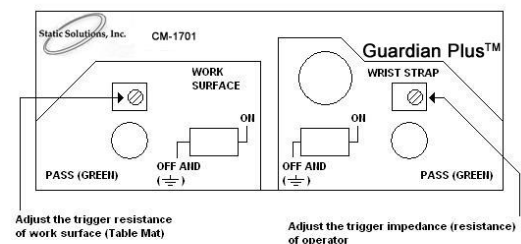

FIGURE 2.
Preset impedance (Operator): The wrist strap person adjustment can be changed The monitor can be changed by turning the adjustment screw to another value (FIGURE 2.) depending on the weight and/or height of the user.
Preset resistance (Work surface (Table Mat)): This is 10 Meg ohms. This can be adjusted to a different value. (FIGURE 2.) Merely turn the adjustment from 10Meg to 5 Meg or 11.5 Meg Ohm.
A 5 Meg Ohm (original setting) was used to set up and calibrate the CM-1702. In case the user has lost or wants to recalibrate the setting connect a 5meg ohm resistor between the ground and banana jack for wrist strap. Then turn the calibration knob in Figure 2 until the LED “JUST” changes from flashing red LED to solid green LED to a flashing red LED.
A 10 Meg Ohm (original setting) was used to calibrate the CM-17as example in case the user has lost on setting. Firstly, connect a 10 Meg Ohm resistor between the ground and banana jack for work surface, then turn the knob in Figure 2 until the LED has “JUST” change from flashing red to green or green to flashing red.
- 4.The impedance setting is not calibrated correctly to the operator due to the difference in weight or height Turn and adjust the impedance setting pot inside the rectangular hole in the front panel (FIGURE 2.) to a lower or higher sensitivity.
- 1.The sensitivity of the impedance is too low. You need to turn and adjust the impedance setting pot inside the rectangular hole in the front panel (FIGURE 2.) to higher sensitivity.